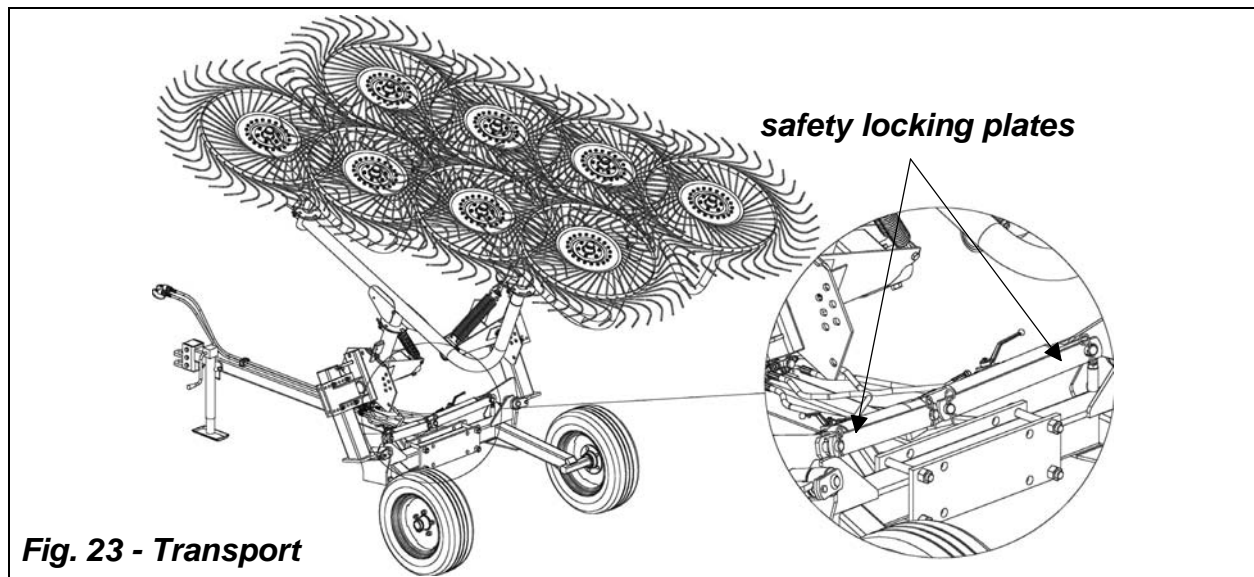

Fig. 23 - Transport
5. If rake wheels are raised, place safety locking plates (**see fig. 23**) on both hydraulic cylinders and secure them with the hairpin cotters.
5. Place safety locking plates in transport position behind the hydraulic cylinders and secure them with Ø4 hairpin cotters (**see fig. 23**).
DANGER: To avoid bodily injury or death, make sure bystanders are clear of machine when raising or lowering rake wheels. Always install safety locking plates to prevent rake arms from accidentally falling during transport (see fig. 23).